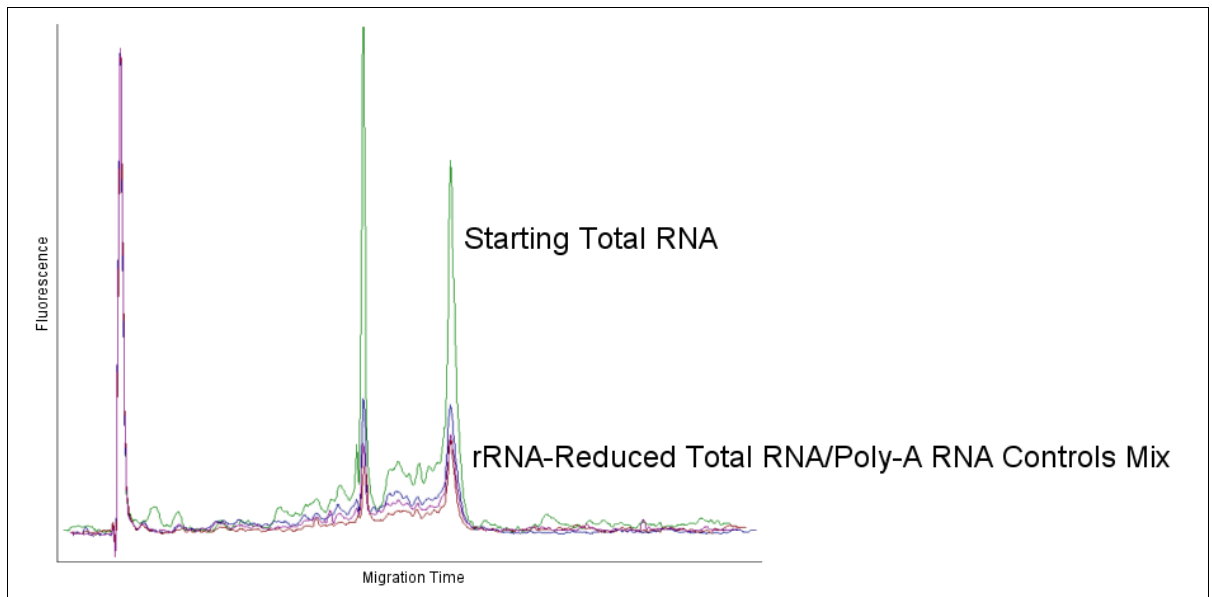

Figure 2.1 Bioanalyzer profile of Human Brain total RNA before and after rRNA reduction with RiboMinus Kit (treated samples are in triplicates)
1. Use 1 μL of the concentrated sample to check its quality by running the Eukaryotic Total RNA Nano Assay in the Bioanalyzer. Please see the Reagent Kit Guide provided with the RNA 6000 Nano LabChip Kit for instructions. Based on the Bioanalyzer results, on average, >100 ng of rRNA-reduced sample may be recovered from 1 μg of total RNA starting material but the recovery rate may vary depending on the tissue type. See Figure 2.1 for an example of the results.